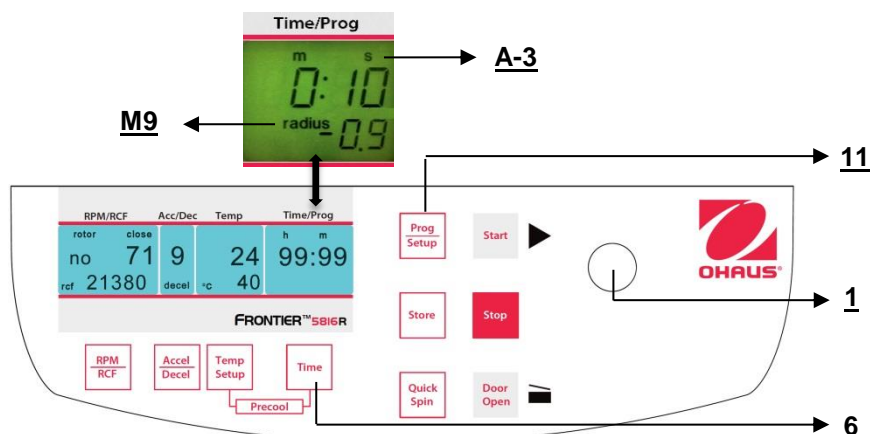

Figure. 21
Close the lid, then press the key **"Time"** (6) (refer to figure 21) and the key **"Prog/Setup"** (11) at the same time and hold them.